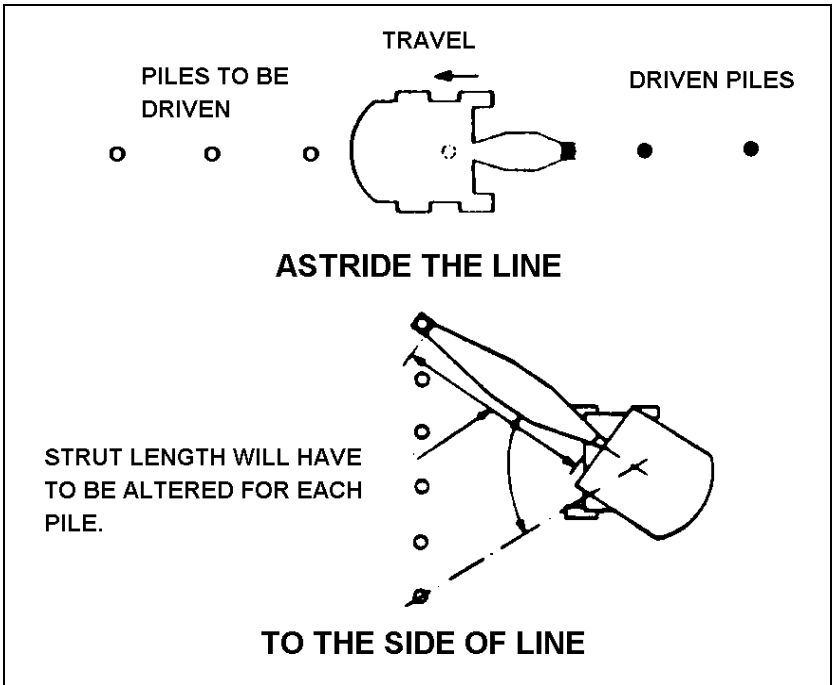

Fig 14-3-2 Positioning a Piling Rig
9. **Siting the Rig.** More than half the total time spent in driving piles is devoted to positioning them. Careful thought shall therefore be given to the siting of the rig so as to minimize movement. Fig 14-3-2 shows methods where the ground is level on the line of the piles (a) and where a level position for the rig is difficult to find (b).